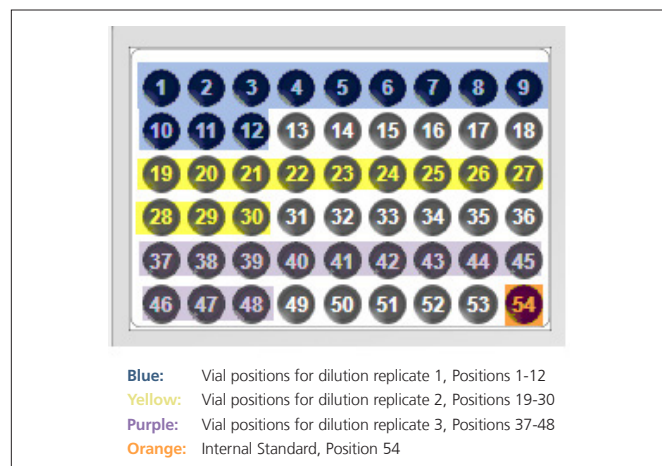

Figure 1. Sample Tray Layout.
The vial positions are fixed in the tray, as shown in Table 1 and Figure 1. If there is an internal standard it is placed in vial #54. Any dilution ratio can be selected individually for preparation.
8. Put new, capped sample vials in tray positions being used (Figure 1).